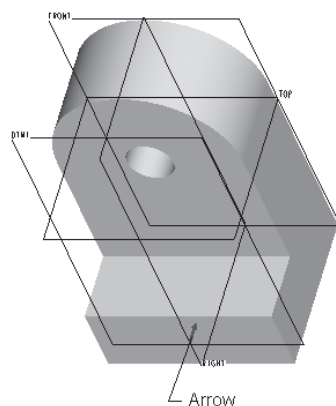

Figure 4-53 Arrow on **DTM1** showing the direction of feature creation
4. Choose **Flip** from the **DIRECTION** submenu. The arrow displayed on the model now points in the direction as shown in Figure 4-53.